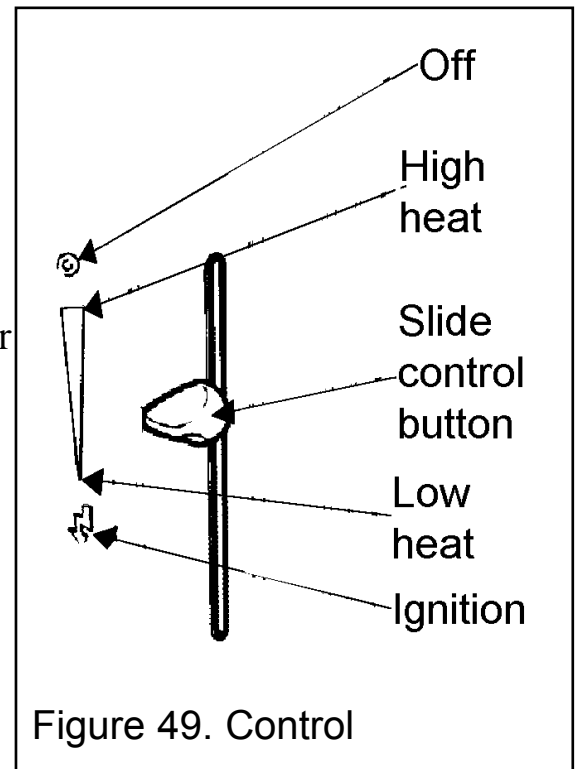

Figure 49. Control
The control position markings on the front surround are shown in figure 49.
5. Gradually slide the button up to increase the burner setting. The burner should be at its maximum setting at the high heat position shown in figure 49. You should feel a check to the button movement at this position.